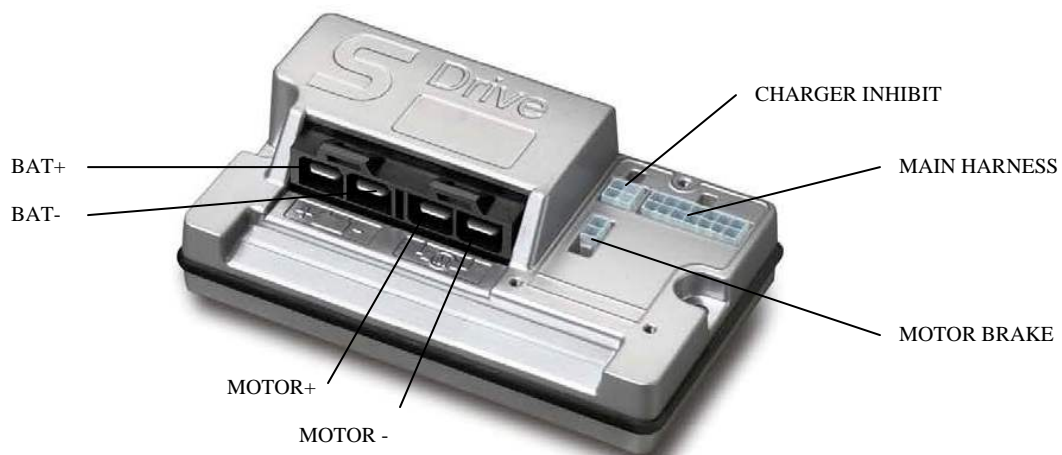

Figure 3. Controller Connections
- 8) Reconnect the harness connectors. See figure 3.